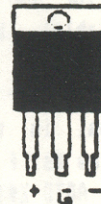

Fig.1
1. Remove the 4 screws from the bottom of the foot, remove the plastic casing and the metal casing. The 5 volt regulator is the only regulator there (see Fig.1).